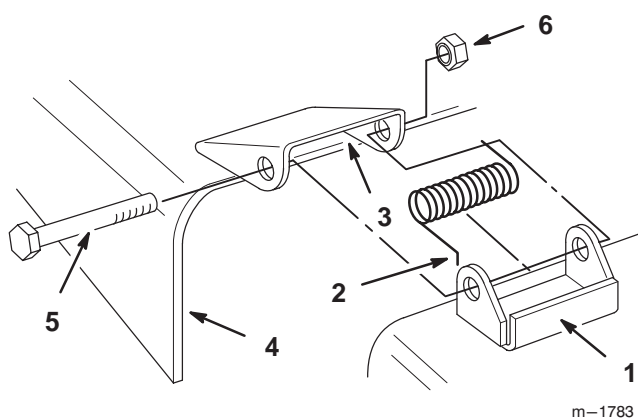

Figure 48
1. Remove the locknut, bolt, and spring holding the deflector to the mower brackets (Fig. 48). Remove the damaged or worn grass deflector.
2. Place the springs into the brackets on the mower with the hooked ends over the raised back (Fig. 48).
3. Align the grass deflector with the holes in the brackets and the spring straight ends in the space under the hinge and above the deflector (Fig. 48).